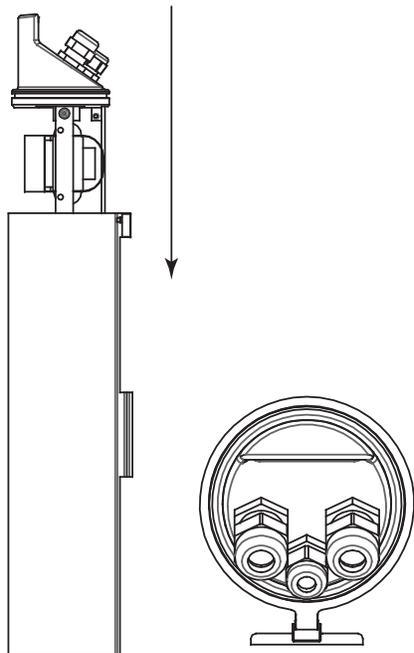

Figure 15 Inserting Cradle Assembly
1. Position the housing vertically and replace the cradle assembly by applying pressure onto the rear cap until the retaining ring stops against the housing. (see **Figure 15**).